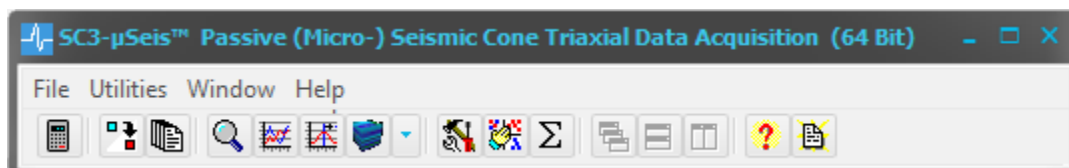

Figure 1: Main Menu and Tool Bar in SC3- μ Seis™
SC3- μ Seis™ is a Windows® program that facilitates the autonomous data acquisition of triaxial seismic cone (SC) time series data. As illustrated in Figure 1 the main menu of SC3- μ Seis™ has four options:
The program can also be operated by clicking on icons. As illustrated in Figure 1 the toolbar of SC3- μ Seis™ consists of 15 different icons: